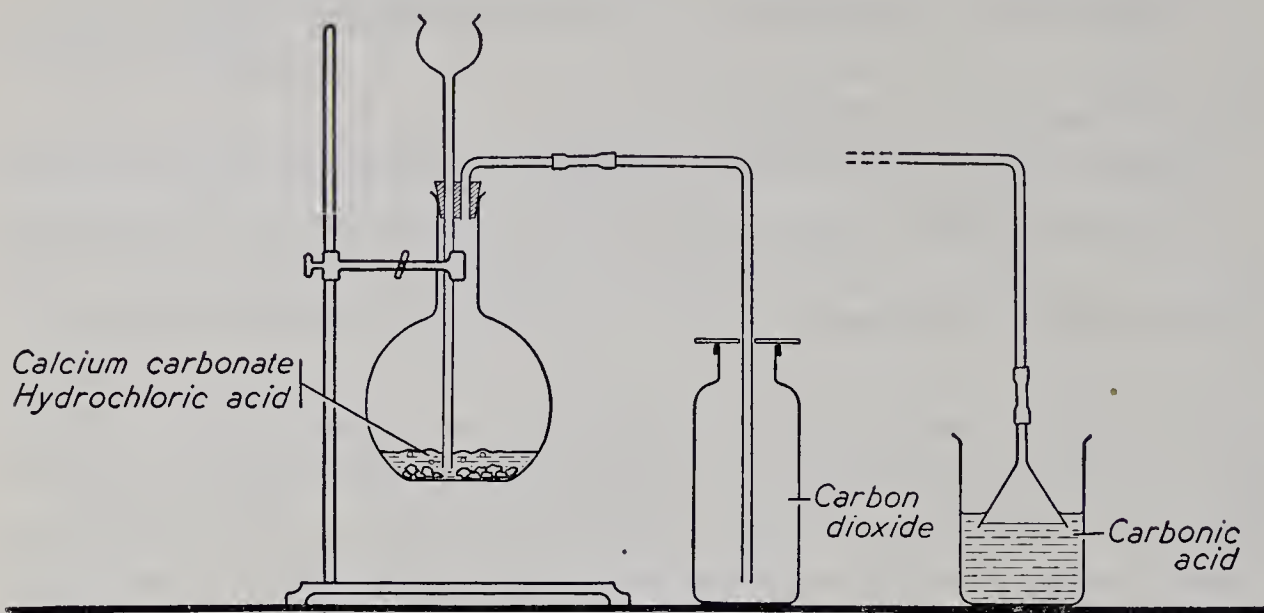

Fig. 51. The laboratory preparation and collection of carbon dioxide.
1. Place two teaspoonfuls of marble chips in a 250 ml. flask, and fit the flask with a thistle-tube and a delivery tube as illustrated in Fig. 51. Add dilute hydrochloric acid through the thistle-tube until the marble chips are covered and the lower end of the thistle-tube is below the level of the acid.
6. Drop pieces of red and blue litmus paper into the solution of carbon dioxide contained in the beaker (Fig. 51).